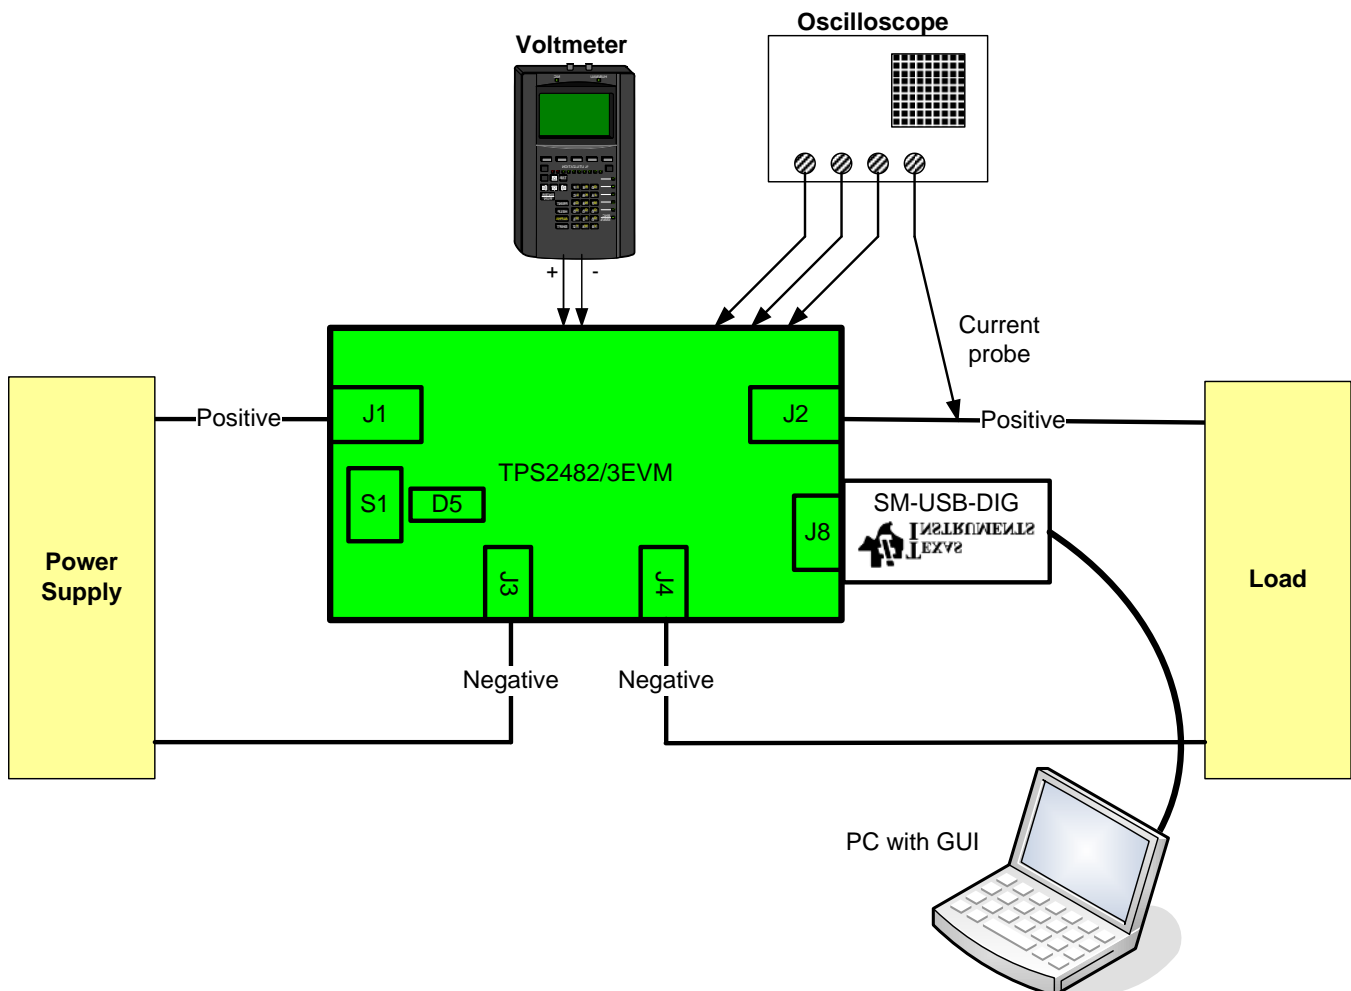

Figure 2. Typical TPS2482 and TPS2483 EVM Test Setup
| J8 | USB | USB Port. Connect furnished SM-USB-DIG and cable to PC when using the TPS2482/3 GUI (see Figure 2). |
Figure 2 shows a typical test setup for TPS2482 and TPS2483EVM.
Figure 2 shows a typical test setup for TPS2482 and TPS2483 EVM. Input voltage can be applied as described in Table 2.
- Connect the PC to the UUT J8 using the SM-USB-DIG and Type A Male to Type A Female USB v2.0 extension cable. Orient the SM-USB-DIG so that the TI bug is oriented as shown in Figure 2.